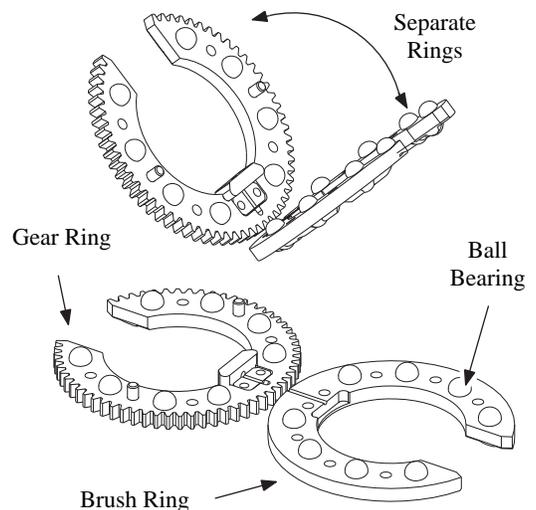

Figure 33 Separating the Gear Ring from the Brush Ring
3. Completely separate the gear ring from the brush ring as shown in Figure 33. Lay the rings flat on the work surface.